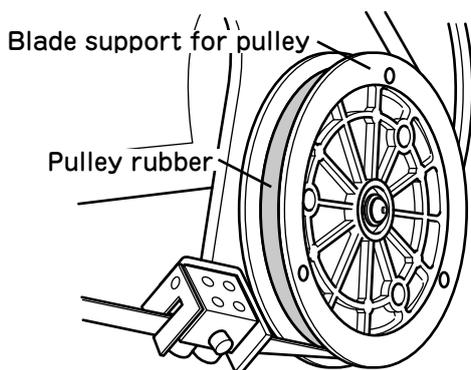

Fig.9
(1)Detach saw blade referring to 1-1)Replacement the Saw Blade (1)-(3)
(2)Using a screwdriver or the like, remove the saw blade support for pulley.[ Fig.9 ]